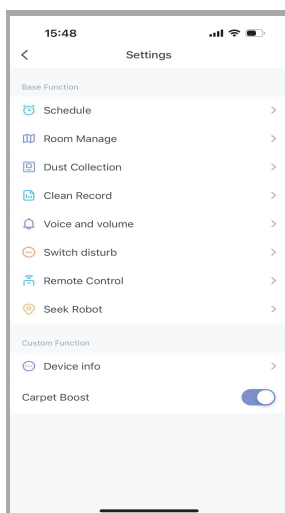

Fig. 18
E). More functions please click the icon  on the main interface and enter the interface of Fig.18: users can set the cleaning schedule, manage room, set the self-emptying frequency, check the cleaning record, turn on / off the voice or switch the languages, check the device information, turn on / off the carpet boost, etc.